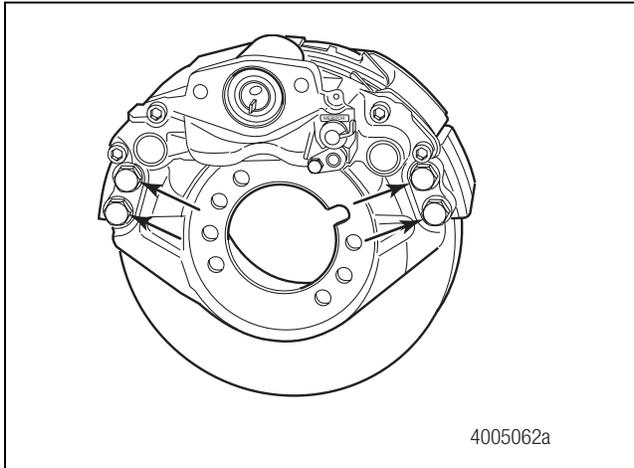

Figure 5.3
4. Use a 30 mm socket wrench to remove the carrier bolts and washers. Figure 5.3. Carefully remove the caliper assembly from the axle.